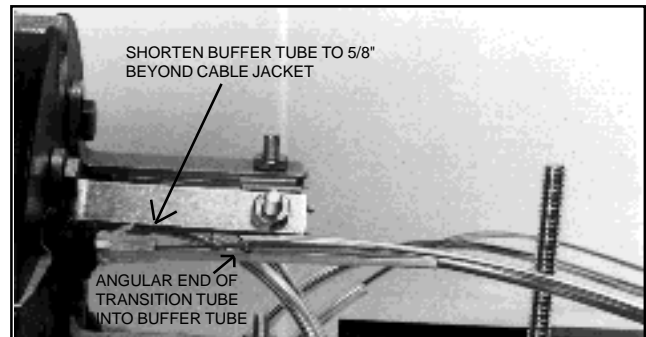

FIGURE 22 – SHORTENED BUFFER TUBE WITH PLACED ANGULAR END OF TRANSITION TUBE
- 11.05** If the upper End Plate seam is needed for additional branch cables, reduce the length of the buffer tube to 5/8" beyond the cable jacket. (Figure 22)
- 11.06** Using Transition Tubing (available from PLP®, cat. #8003280), make an angular cut at the end where the fiber will be inserted and wrap one layer of felt tape 1/2" in from the opposite end of the tube. (Figure 22)